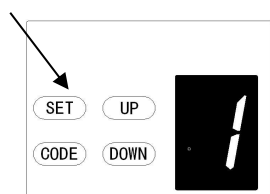

Figure 1
**Figure 1~9 means the door will still not rebound even though there's obstacles in its closing path within 1cm~9cm away from the close position. This function is most suitable for the Northern Europe where will always snow on the ground.**